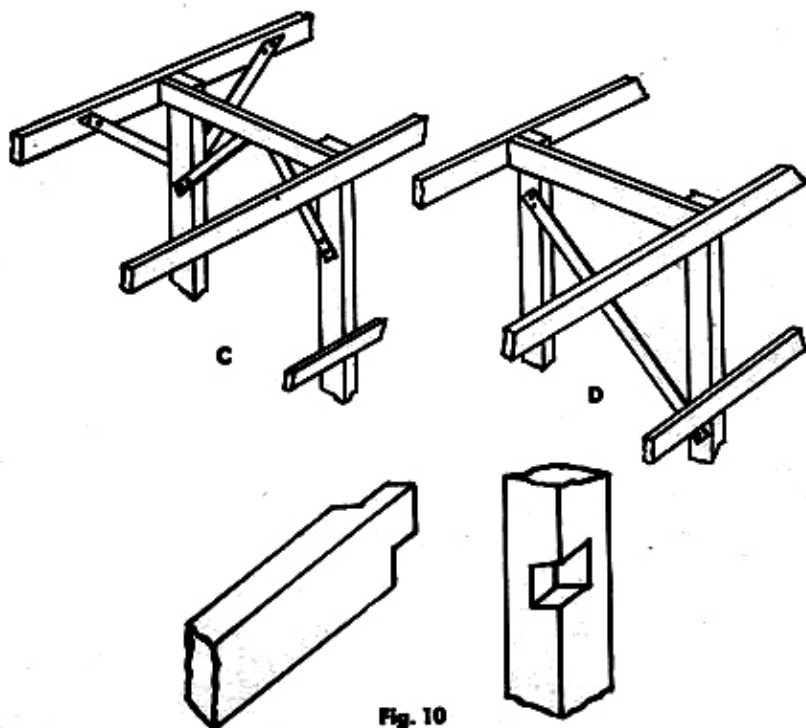

Fig. 10
**MORTISING.** This is not mandatory, but a mortised joint is tighter and stronger than a butt or lap. Fig. 10 shows close-up detail. Only tools needed for this are saw, hammer and chisel.